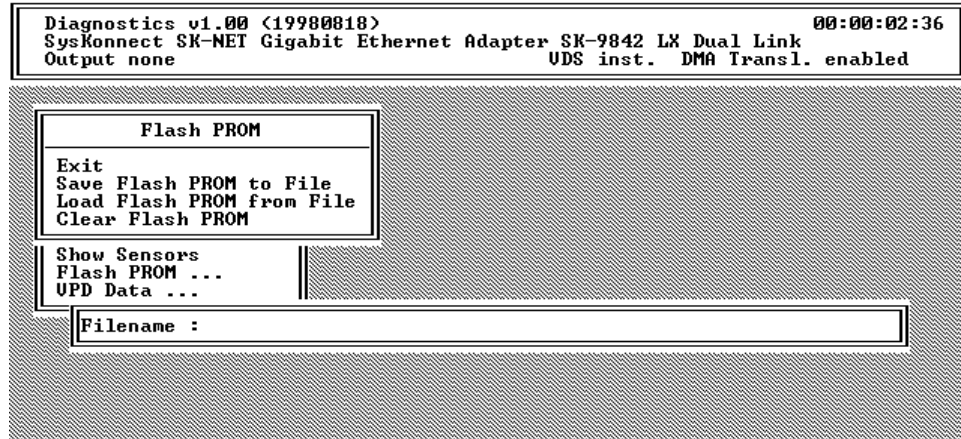

Fig. 15. Read/Write Flash
3. Select the appropriate option or return to the main menu by selecting *Exit* (default option). If you select *Save Flash PROM to File* or *Load Flash PROM from File*, a dialog box will appear (see Fig. 15). Enter the name of the file in which the contents of Flash PROM are to be saved or from which the Flash PROM is to be loaded.